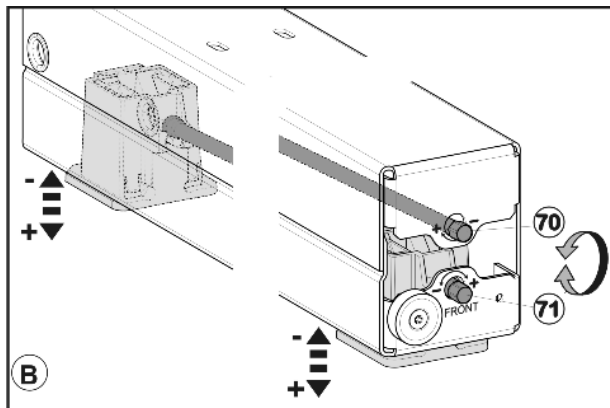

Fig. 61
- Align the height of both appliances evenly using the four roller bases. Use upper adjustment setting (1/4") Fig. 61 (70) for the rear adjustable foot and lower adjustment setting (1/4") Fig. 61 (71) for the front adjustable foot respectively. Turn clockwise to raise and counterclockwise to lower. Maximum adjustable height: 5/8 in (16 mm).